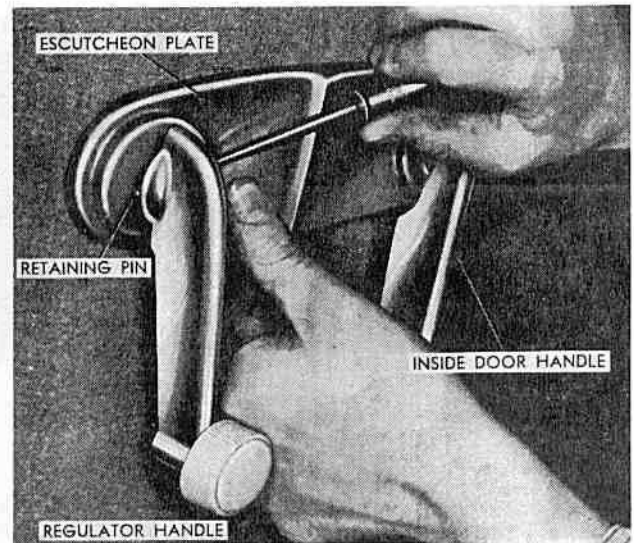

FIG. 10
**INSIDE DOOR AND WINDOW REGULATOR HANDLE** Press the escutcheon plate in toward the door trim to expose the retaining pin which holds the regulator handle in position. Using a punch, drive the pin out of the handle and remove the handle from the door (see Fig. 10). Then remove the Phillips head screw from the inside door handle and remove the door handle and escutcheon plate.